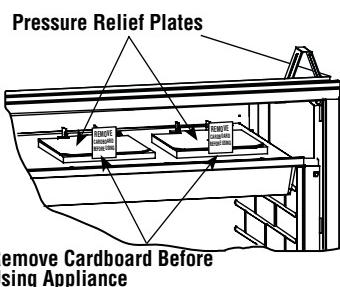

Figure 10
3. Lift the pressure relief plates and remove the cardboard from beneath each plate (be careful not to damage the white gasket). *See Figure 10.*